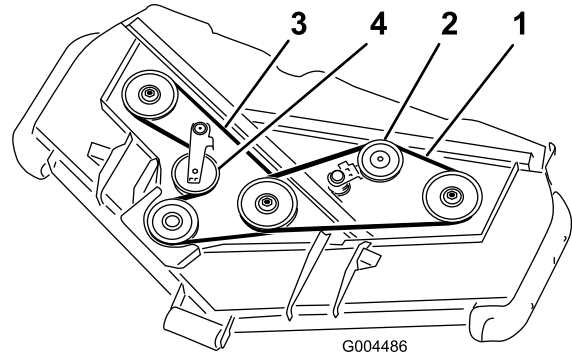

Figure 54
3. Using a breaker bar or similar tool, move the idler pulley for the top belt (Figure 54) away from the top drive belt to release the belt tension and allow the belt to be slipped off the pulleys.
4. Using a breaker bar or similar tool, move the idler pulley for the bottom belt (Figure 54) away from the bottom drive belt to release the belt tension and allow the belt to be slipped off the pulleys.
5. Route a new belt around the gearbox pulley, bottom spindle pulleys, and idler pulley assembly as shown in Figure 54.
6. Route a new belt around the top spindle pulleys and idler pulley assembly as shown in Figure 54.